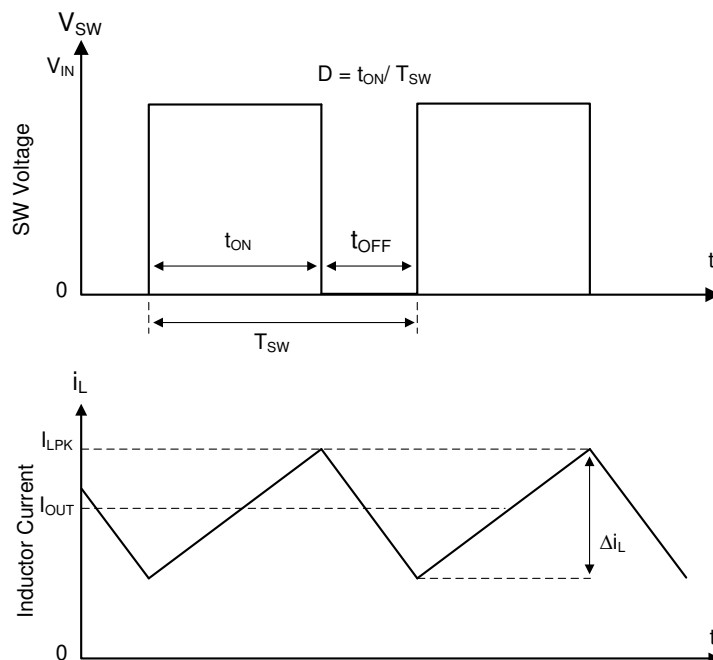

Figure 7-1. SW Node and Inductor Current Waveforms in Continuous Conduction Mode (CCM)
The following operating description of the LMR516xx-Q1 refers to the Functional Block Diagram and to the waveforms in Figure 7-1. The LMR516xx-Q1 is a step-down synchronous buck converter with integrated high-side (HS) and low-side (LS) switches (synchronous rectifier). The LMR516xx-Q1 supplies a regulated output voltage by turning on the high-side and low-side NMOS switches with controlled duty cycle. During high-side switch ON time, the SW pin voltage swings up to approximately V_{IN} , and the inductor current, i_L , increases with a linear slope of $(V_{IN} - V_{OUT}) / L$. When the high-side switch is turned off by the control logic, the low-side switch is turned on after an anti-shoot-through dead time. Inductor current discharges through the low-side switch with a slope of $-V_{OUT} / L$. The control parameter of a buck converter is defined as Duty Cycle $D = t_{ON} / T_{SW}$, where t_{ON} is the high-side switch ON time and T_{SW} is the switching period. The converter control loop maintains a constant output voltage by adjusting the duty cycle D . In an ideal buck converter, where losses are ignored, D is proportional to the output voltage and inversely proportional to the input voltage: $D = V_{OUT} / V_{IN}$.